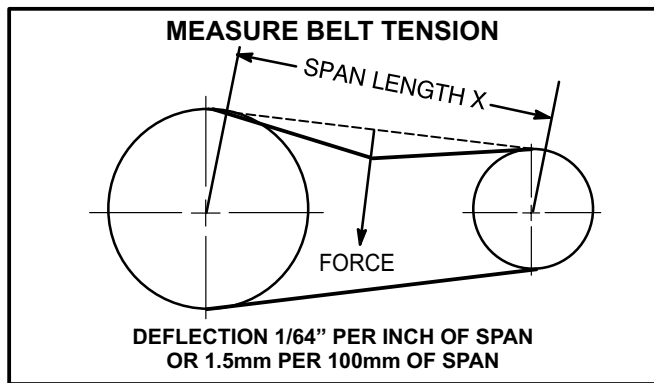

FIGURE 30
- 1- Measure span length X. See figure 30.
- 2- Apply perpendicular force to center of span (X) with enough pressure to deflect belt 1/64" for every inch of span length or 1.5mm per 100mm of span length.